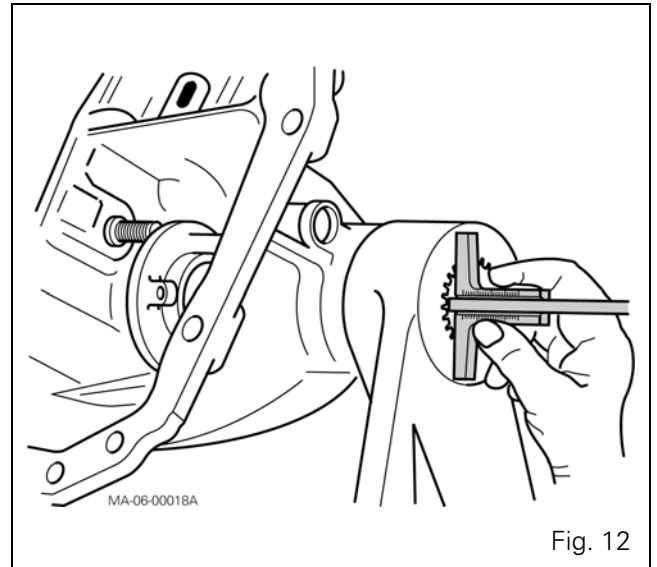
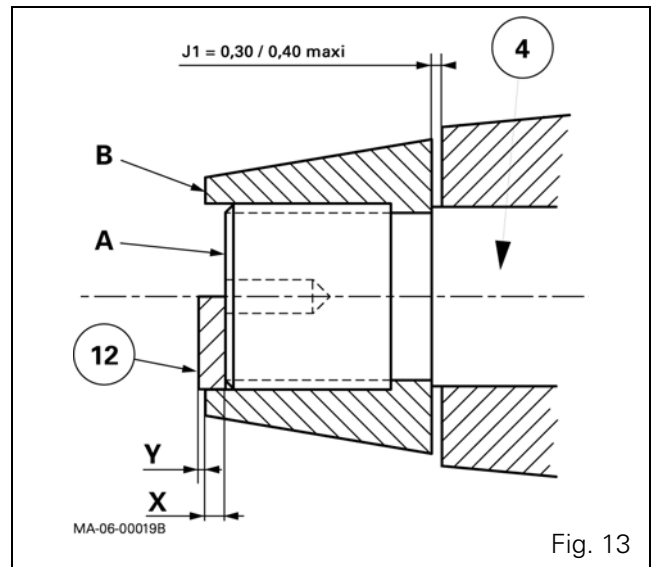

Fig. 12
Fig. 13
35. Carry out shimming of the shaft (4) (Fig. 13) to obtain the following clearance:
36. Tighten the screw to position the lift arms (5) and (11) correctly on the shaft.
37. Remove the screw (2) and the washer (1) at the left end of the shaft.
38. Measure the distance between face "A" of the shaft and face "B" of the arm using a depth gauge (Fig. 12 and Fig. 13).
39. Measure dimension "X" to determine the thickness of shims "Y" needed to obtain (Fig. 13):
40. Fit the shims (12) selected previously (Fig. 13), the washer (1), the lockwasher (3) and the screw (2).
41. Tighten the screw (2) to a torque of 360 - 470 Nm.